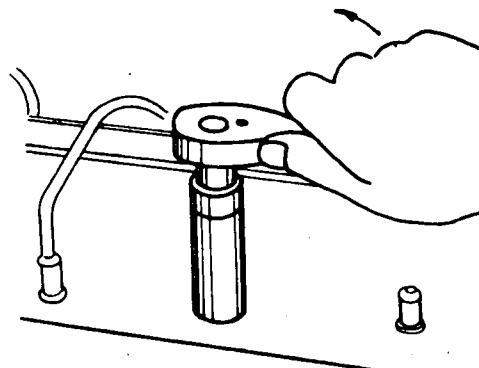

Fig. 1
- b) Loosen the spark plugs (fig. 1).